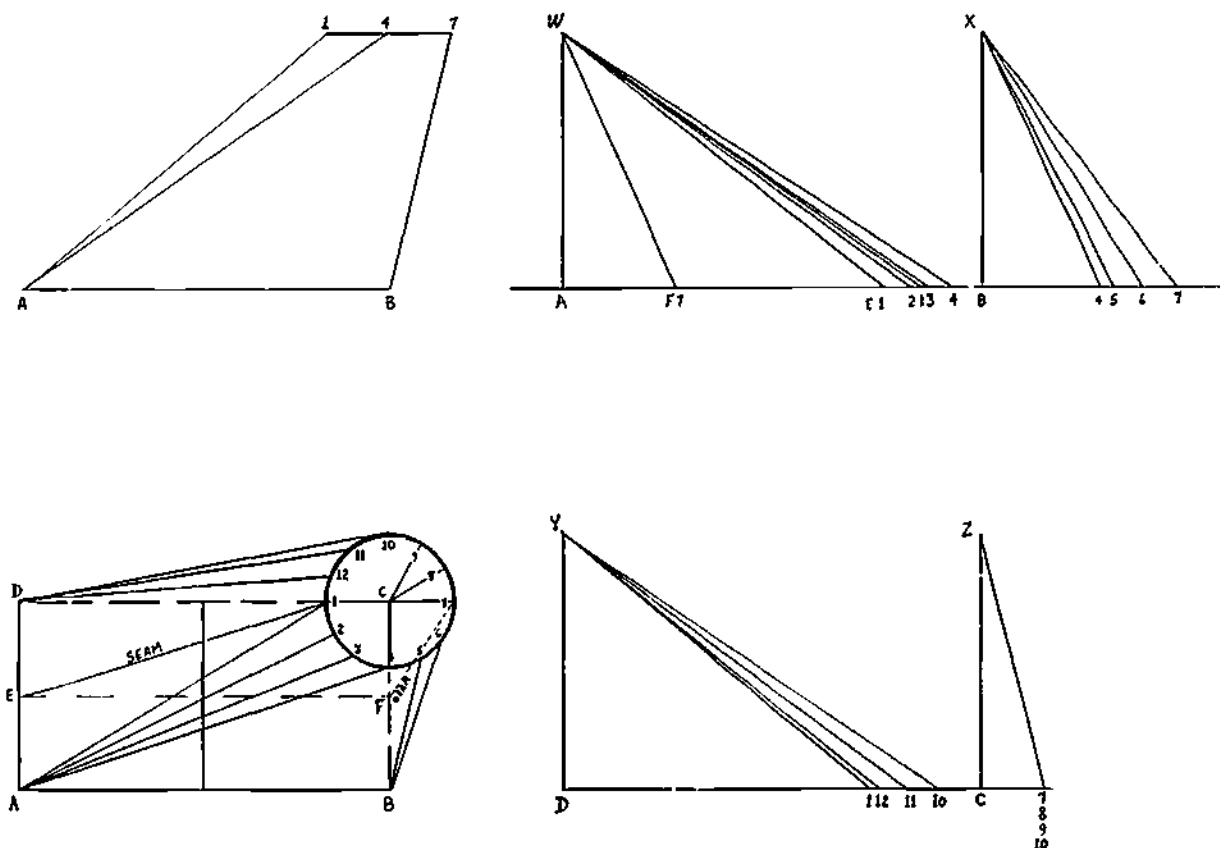

Figure 5-48. Rectangle to Round, Offset Both Ways (True Length Development)
Step 5. To develop true lengths for the first half pattern, two true length triangles are required: the first will determine true lengths about point A. See Figure 5-48.